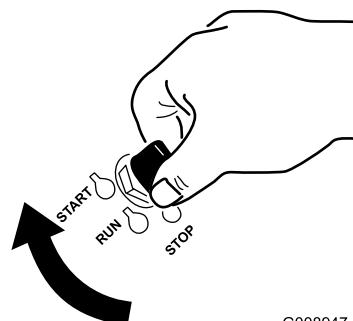

Figure 18
1. Turn the ignition key to the Start position (Figure 18). When the engines starts, release the key.
6. Turn the ignition key to the Start position (Figure 18). When the engine starts, release the key.